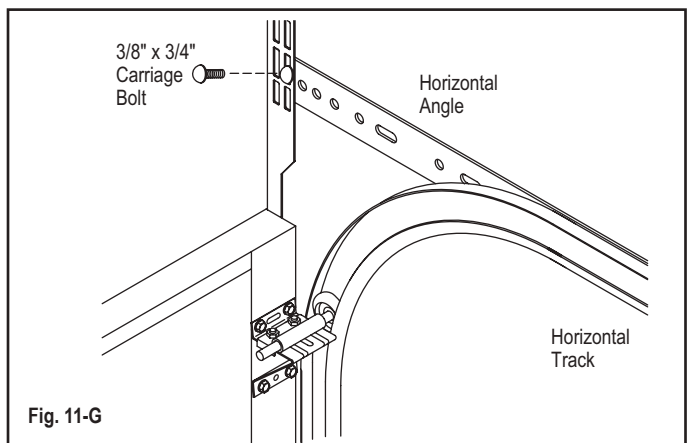

Fig. 11-G
- Use 1-1/4" x 1-1/4" punched angle, at least 13 gauge or 3/32" steel to make two rear track hangers with sway braces (Fig. 11-H).
- Attach to track using at least 1" long bolts (Fig. 11-H).